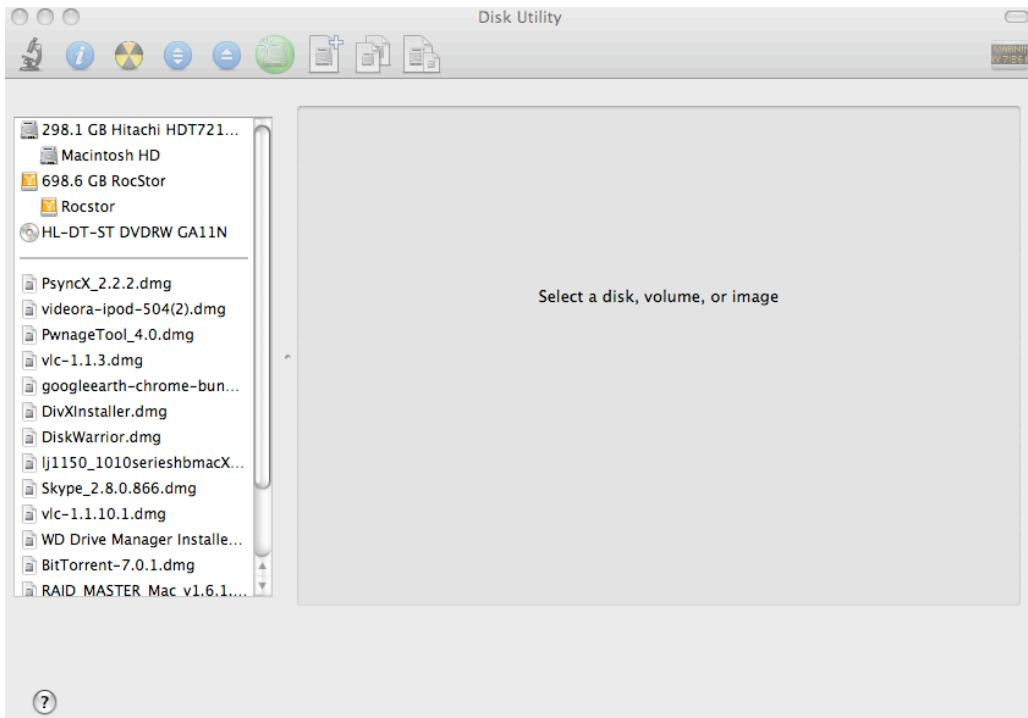
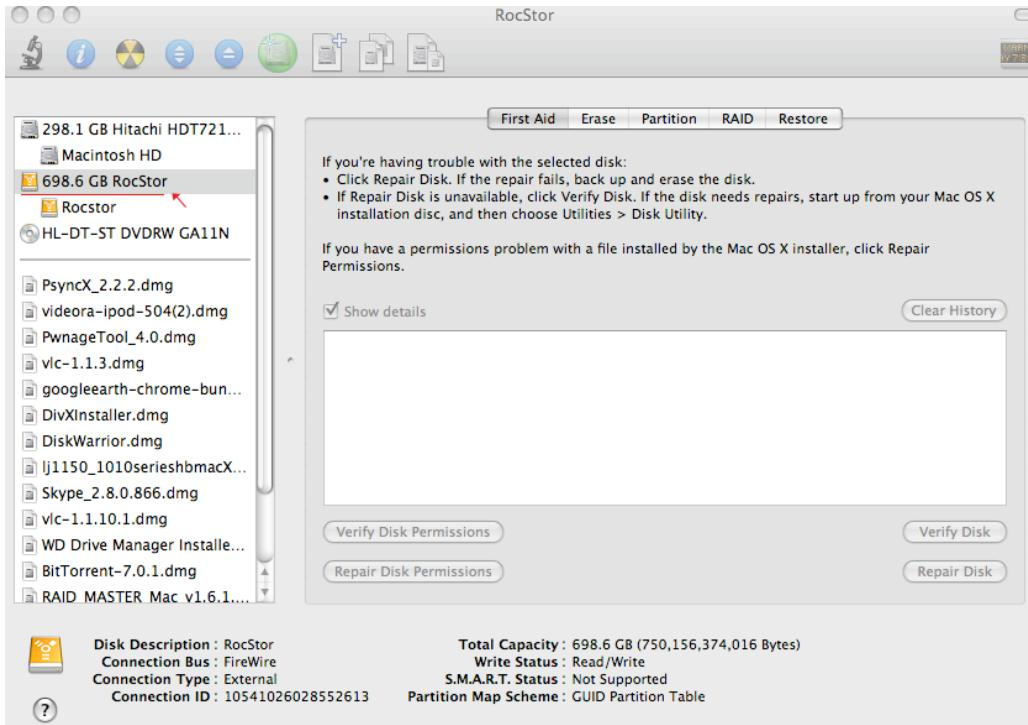

Figure 5.0
Figure 5.1
7. On the left side of the “Disk Utility” menu is a list of available drives (figure 5.0.) One will show as Rocstor drive. Click on the icon showing the disk capacity (figure 5.1.)